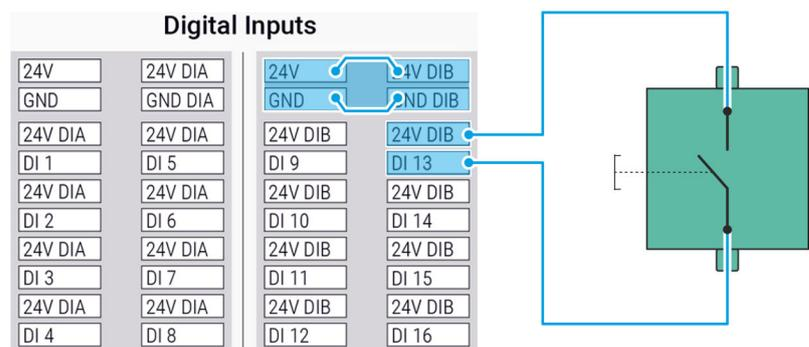

Fig. 77 Connecting a button (example)
01. When connecting a button via the digital input, note the example configuration in Fig. 77.